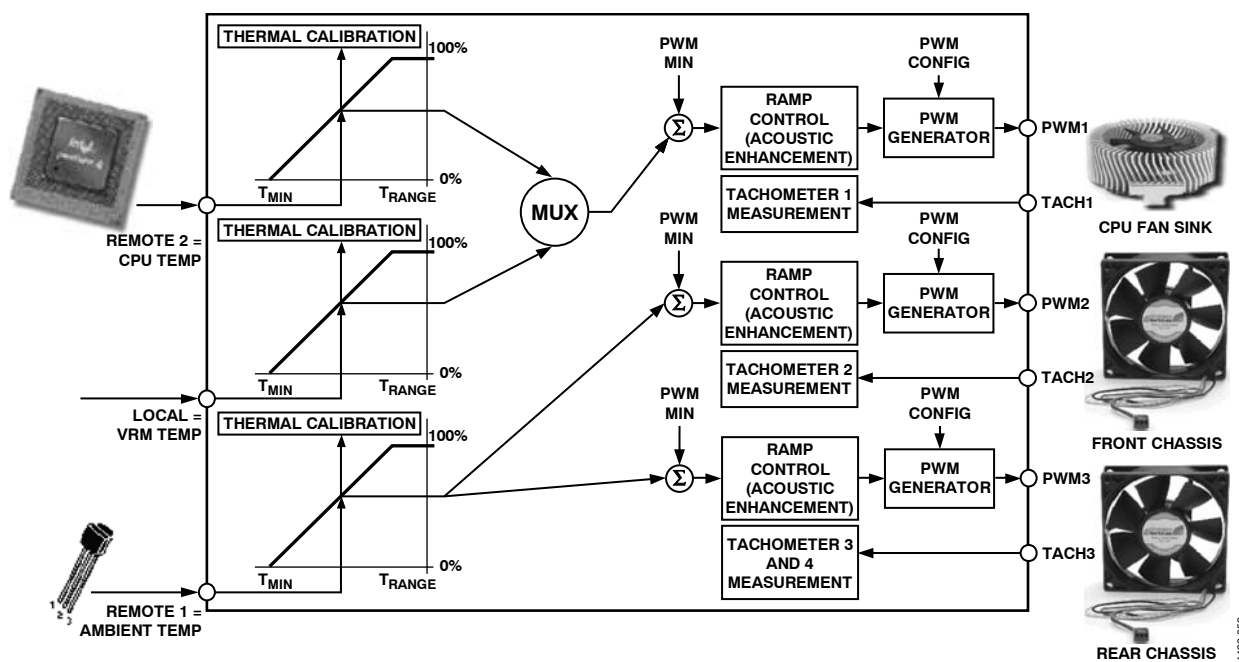

Figure 56. Mux Configuration Example
- These settings configure the mux as shown in Figure 56.